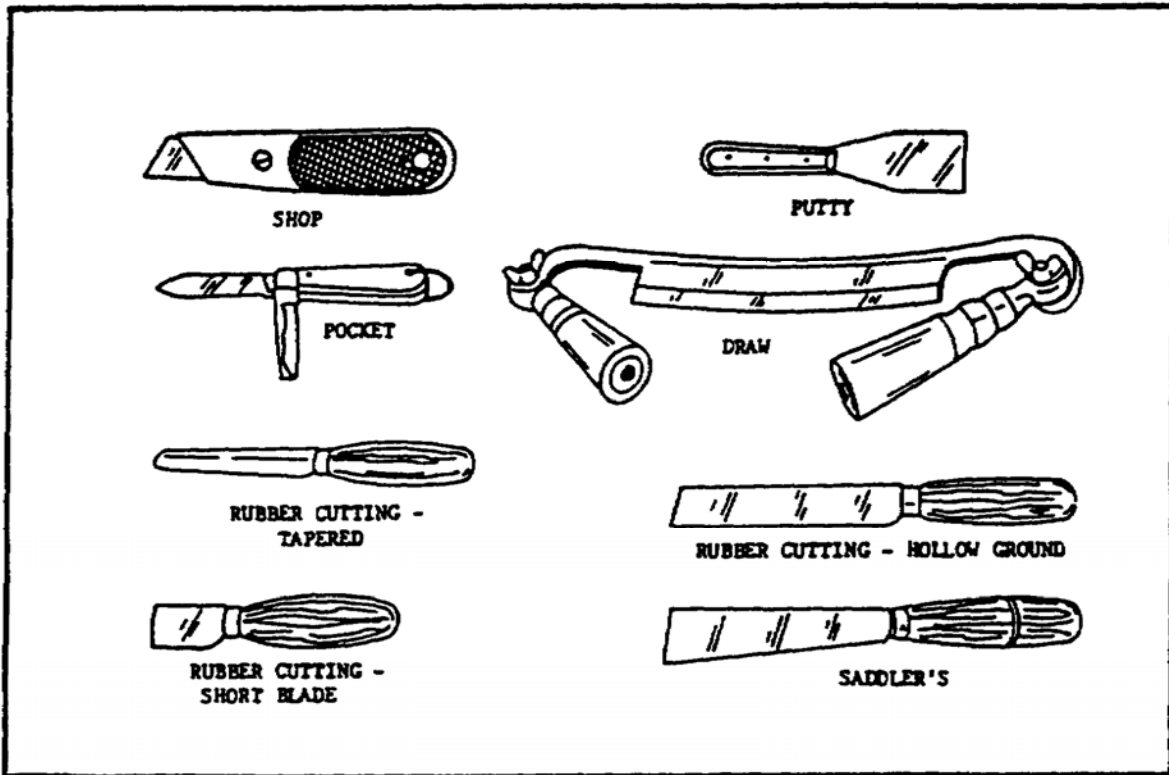

FIGURE 104. TYPES OF KNIVES.
a. *Purpose.* Most knives (figure 104) are used to cut, pare, notch, and trim wood, leather, rubber, and other materials. Some knives, used by glaziers, are called putty knives; these are used to apply and spread putty when installing glass.